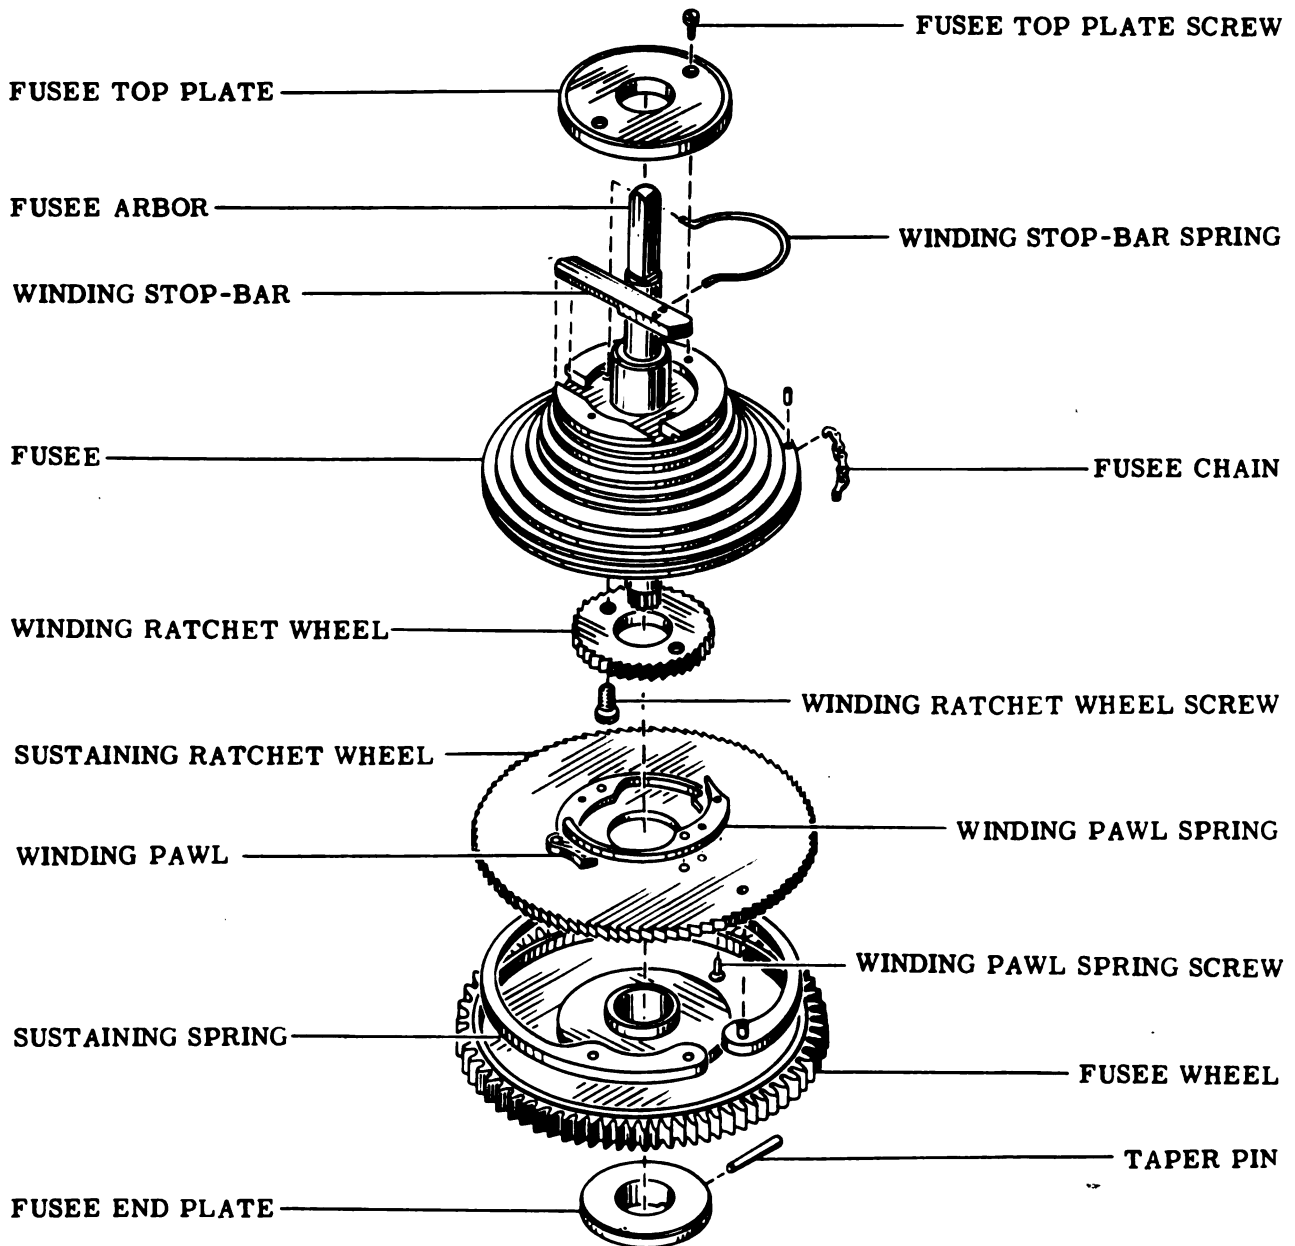

Figure 28
39. Remove chain from fusee and hang over rod to prevent kinking. Fig. 28 shows how the fusee chain is fastened to the fusee by means of a pin. For cleaning chain, see Section VI.
40. Remove taper pin and fusee end plate, both shown in Fig. 28.
41. Remove fusee wheel, sustaining spring and sustaining ratchet wheel. See these parts exploded in Fig. 28.
42. Remove four screws from sustaining ratchet wheel, releasing winding pawl springs. See Fig. 28.
43. Remove two winding ratchet wheel screws from fusee, using Tool No. 93, releasing winding ratchet wheel. See Fig. 28.
44. Remove two fusee top plate screws, releasing fusee top plate. See Fig. 28.
45. Remove winding stop-bar spring and winding stop-bar. See Fig. 28.